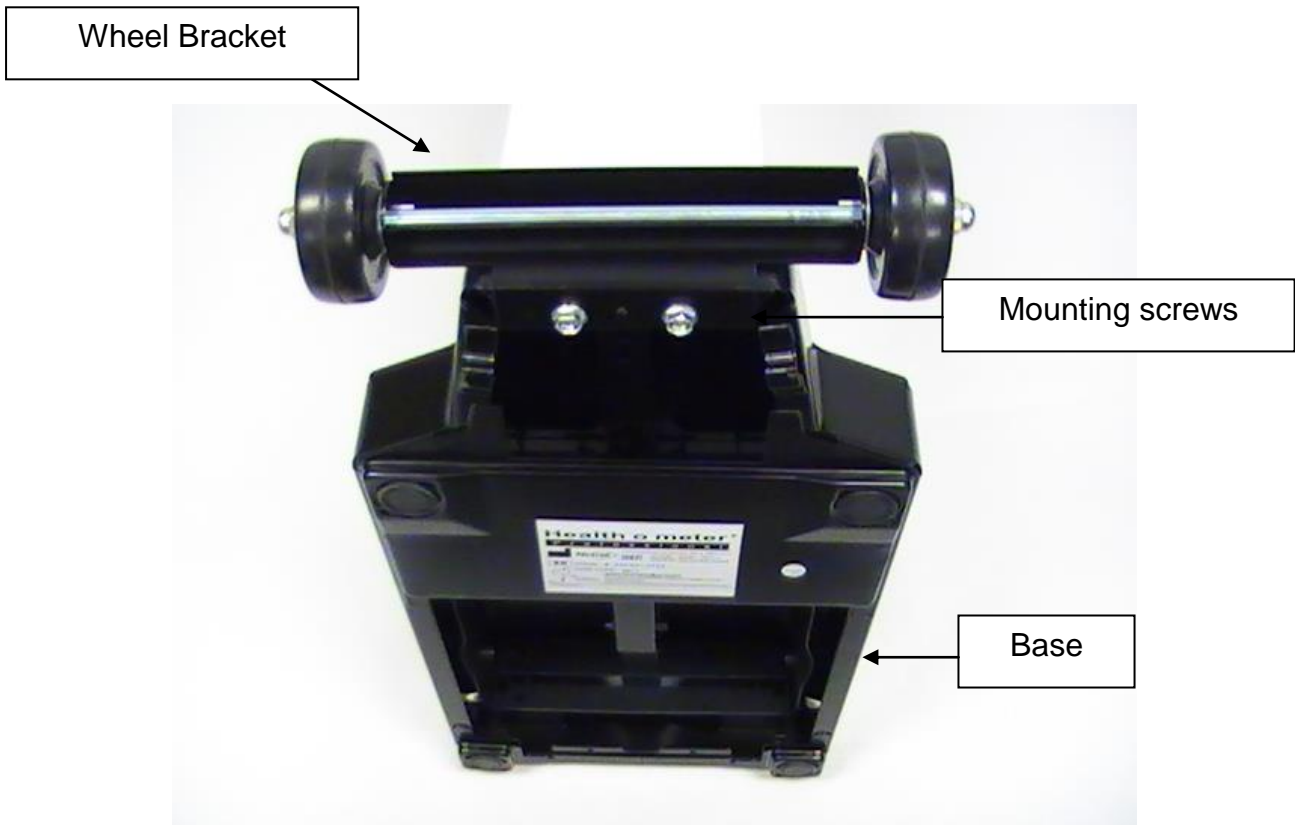

Figure 10
4. Install the mounting screws through the wheel bracket, base, and clamping plate. Tighten the mounting screws securely. (See Figure 10 on page 12)